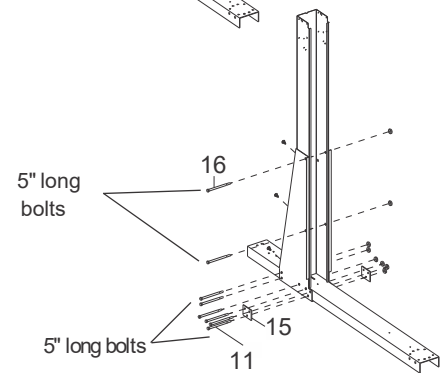

Fig. 14
D) All holes should be lined up at this point. Bolt the components together as shown in the diagram. Use 5/16" x 5" long bolts and 5/16" nuts for the channels, and 5/16" x 5" long steel bolts for connecting the gussets to the uprights. Remember to include the three-hole washer at the fronts of the gussets. If these washers are left off your pool will break! (Fig.14).